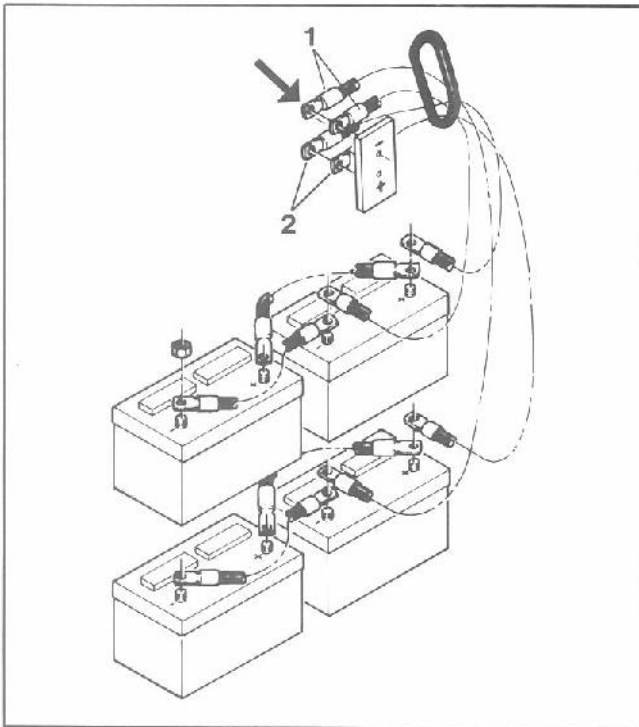

Figure 16: Terminal Block
CAUTION: Always disconnect ground (-) cables from terminal block located on the inside rear of the left front frame before attempting to service or remove the batteries (Fig. 16 No. 1)
1. Remove ground (-) cables from terminal block. (Fig. 16)